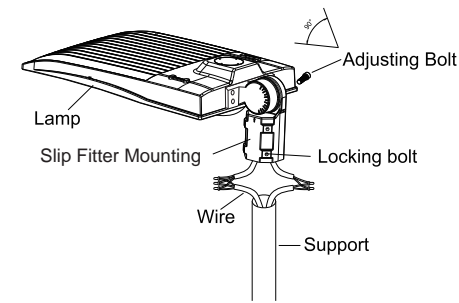

Figure 9
- Step 1: Loosen the four bolts on the mounting, connect the wires correctly, and pull the wires into the poles. (Figure 9)
Notice: Adjustable angle is 0-90° (Figure 9)